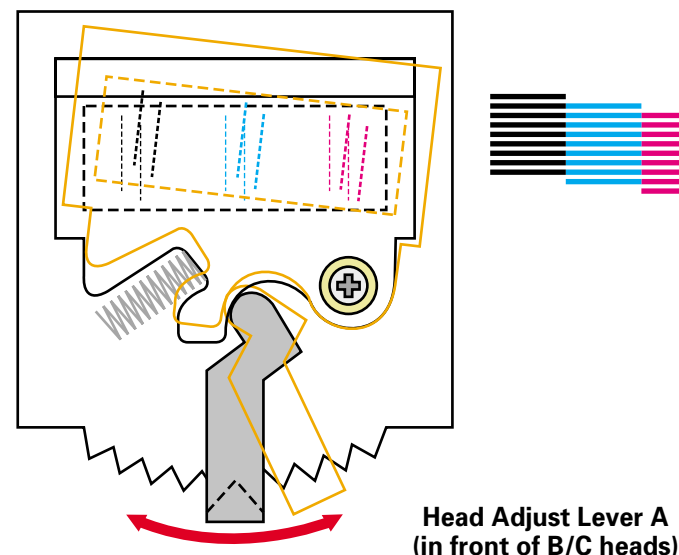

Figure 5-21. B/C Head Skew Adjust Lever
2. Compare the printed pattern with the illustration below. Press Enter if the lines are parallel, as shown in the "OK" examples below. If there is a slant, open the front cover, release the carriage lock by hand, and move the carriage away from the carriage cap position. Next, loosen the screw securing the head that is printing at a slant, and move the Head Adjust Lever A left or right depending on the slant direction. See Figure 5-21 for reference. Tighten the screw.